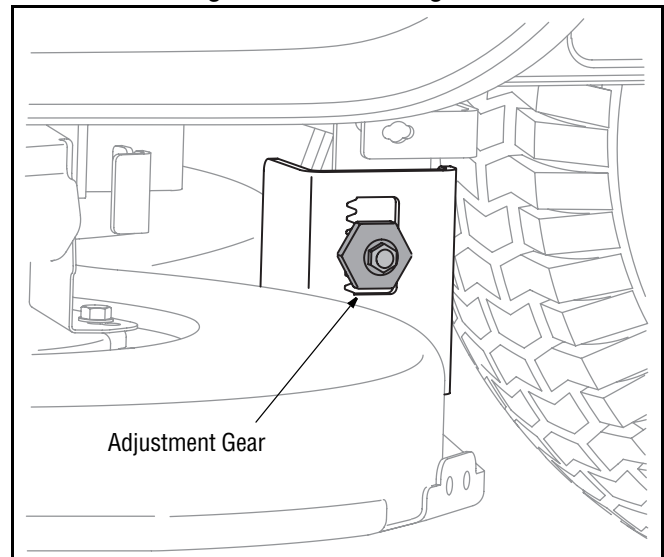

Figure 10
- Locate the jam nut and lock nut found on the front side of the stabilizer bracket. See Figure 10. After loosening the jam nut: Tighten the lock nut to raise the front of the deck; Loosen the lock nut to lower the front of the deck.
- Loosen, but do NOT remove, the hex screw on the left deck hanger bracket. See Figure 10.